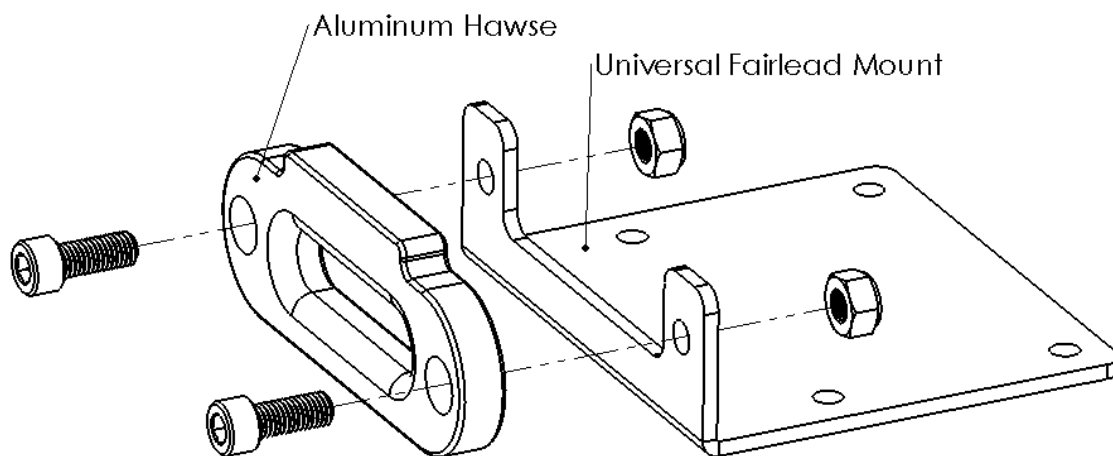
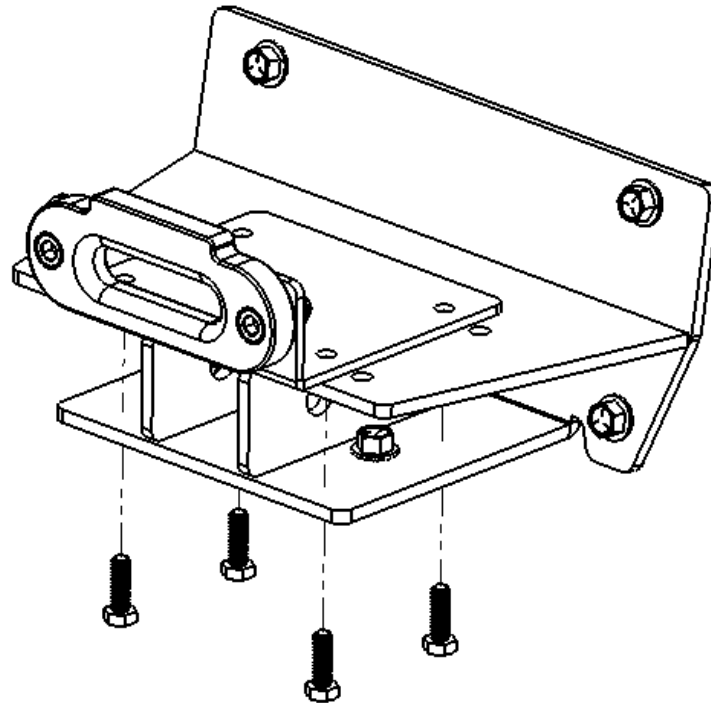

Figure 2
Figure 6
- 2) Attach the winch's fairlead (Roller or Hawse) to the Universal Fairlead Mount included in all VIPER winch kits using the hardware supplied in the winch kit. See Figure 2.
- 5) Place the Universal Fairlead Mount (shown in Figure 2) on top of the MA11991 Winch Mount. Position the winch over the same holes and use the M8-1.25 x 25mm Hex Bolts included in the winch kit to secure the winch to the winch mount plate. See Figure 6 (winch not shown).